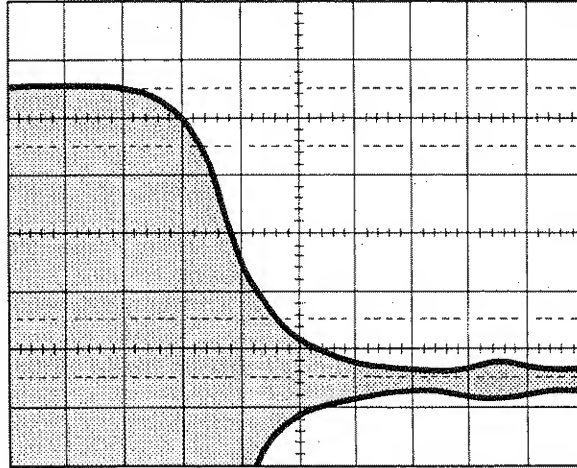

Figure 4-15. Pulse Modulation Fall Time Waveform.
7. Adjust the oscilloscope horizontal position control to view the modulation envelope fall time. Position the waveform so that the modulation envelope crosses the 90% graticule at a vertical graticule line similar to Figure 4-15.